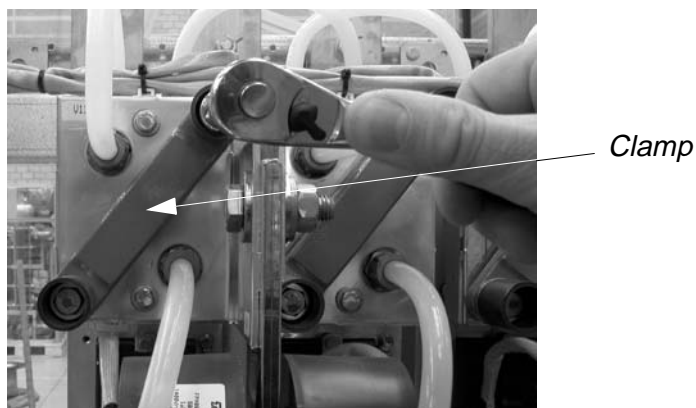

Figure 9-2 Loosening the Bolts
- 3 Loosen the clamp bolts alternately until they can be turned by hand and loosen the thyristor (see *Figure 9-2*). At first, do not open the bolts completely to prevent the clamp from dropping.